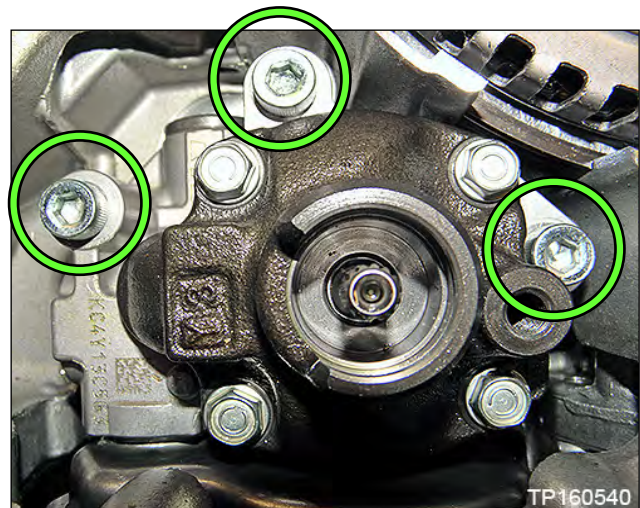

Figure 56
- b. Remove the three oil pump Allen™-head bolts, and remove the oil pump (Figure 56).